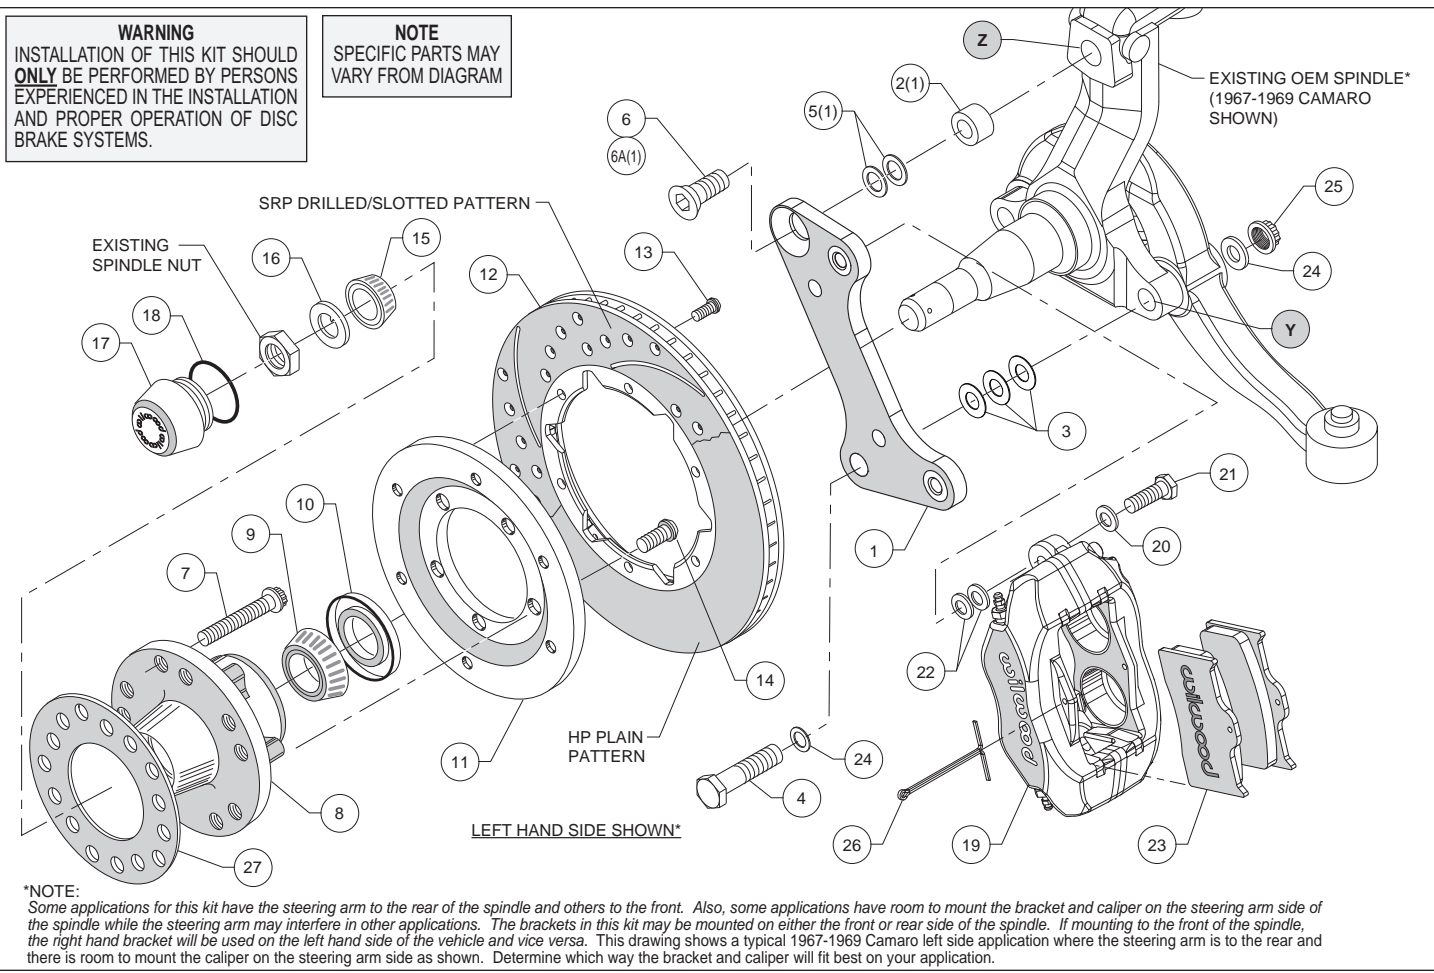
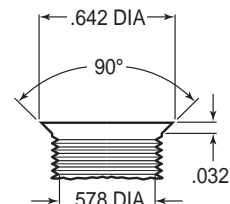
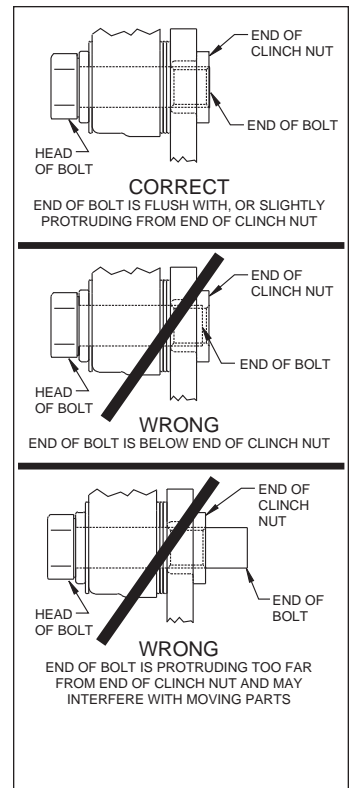

Figure 1. Typical Installation Configuration
Figure 3. Drill and Tap Detail
Figure 4. Clinch Nut Engagement Diagram
Assembly Instructions (numbers in parenthesis refer to the parts list and Figure 1 on the preceding page): **CAUTION:** All mounting bolts must fully engage clinch nuts. Be sure to check that all bolts are either flush or protruding through flanged side of clinch nut after shimming, Figure 4.
•**NOTE:** Some applications for this kit have the steering arm to the rear of the spindle and others to the front. Also, some applications have room to mount the bracket and caliper on the steering arm side of the spindle while the steering arm may interfere in other applications. The brackets in this kit may be mounted on either the front or rear side of the spindle. If mounting to the front of the spindle, the right hand bracket will be used on the left hand side of the vehicle and vice versa. Figure 1 shows a typical 1967-1969 Camaro left side application where the steering arm is to the rear and there is room to mount the caliper on the steering arm side as shown. Determine which way the bracket and caliper will fit best on your application.
•**NOTE:** Some spindles in this year range may require the following modifications (reference Figure 1 and Figure 3): Top anchor pin hole (Z) must be drilled and tapped to the dimensions as outlined in Figure 3. The lower bolt hole (Y) in the spindle used to mount the new caliper bracket, and the mating steering arm hole, must be enlarged to .50" by drilling. It is recommended these modifications be performed by a qualified machinist.
- Install wheel studs (7) into the hub (8), Photo 1. Torque to 77 ft-lb. **NOTE:** There are two five lug patterns in the hub (5 x 4.50 and 5 x 4.75). Ensure the correct hub stud pattern is being used to fit the wheel application.
- Pack the large inner bearing cone (9) with high temperature disc brake bearing grease (available from your local auto parts store) and install into the backside of the hub (8), Photo 2.
- Install the grease seal (10) by pressing into the backside of the hub (8), flush with the end of the hub, Photo 2.
- Orient the rotor (12) and the rotor adapter (11) as shown in Figure 1 and Photo 3. Attach the rotor to the adapter using bolts (13). Using an alternating sequence, apply red *Loctite*® 271 to the threads, and torque to 25 ft-lb.
- Mount the adapter/rotor assembly (11 and 12) to the hub (8) using bolts (14), as shown in Figure 1 and Photo 4. Using an alternating sequence, apply red *Loctite*® 271 to the threads, and torque to 45 ft-lb.
- Disc Brake Spindle Application Only:** Follow the instructions below, but instead use bolt (6A), spacer (2), and two .050" thick washers (5) in the upper bolt hole location, Figure 1.
- Orient the flat bracket (1) as shown in Figure 1 and Photo 5, and install using bottom bolt (4), washers (24), and nut (25), Figure 1. Initially place three .032" thick shims (3) between the bracket and spindle. Install the upper bolt (6 or 6A), Photo 6. Temporarily tighten bolts. **NOTE:** *The bracket must fit squarely against the mounting surfaces on the spindle.* Inspect for interference from casting irregularities, machining ridges, burrs, etc. Ensure that the flanged heads of the clinch nuts in the bracket are facing outboard. Temporarily install the hub/rotor assembly. Check that the bracket is aligned parallel to the rotor, Photo 7. If not, adjust by adding or subtracting shims (3) on the lower bolt between the bracket and spindle, Figure 1. Once the bracket alignment is correct, remove the upper bolt (6 or 6A), apply red *Loctite*® 271 to the bolt threads, and torque to 120 ft-lb. Torque the lower lock nut to 65 ft-lb.
- Pack the small outer bearing cone (15) with high temperature disc brake bearing grease and install into hub (8). Slide the hub/rotor assembly onto the spindle. Secure using spindle washer (16) and OEM spindle nut, Photo 8. Adjust bearings per OEM specifications. Install saved OEM nut lock (if any) and a new cotter pin (not included).
- Screw dust cap (17) into hub (8). Friction created by the o-ring (18) on the dust cap keeps it from unscrewing. **NOTE:** *The O.D. of the existing OEM spindle washer may be larger than the I.D. of the dust cap not allowing it to seat against the hub face. Therefore, use the spindle washer (16) supplied with the kit instead of the OEM washer.*
- NOTE:** *Please reference the caution statement at the beginning of the assembly instructions.* Mount the caliper (19) onto the caliper bracket (1) using bolts (21) and washers (20), as shown in Figure 1. Initially place two .035" thick shims (22) on each bolt between the caliper and the bracket, Photo 9. Temporarily tighten the mounting bolts and view the rotor (12) through the top opening of the caliper. The rotor should be centered in the caliper, Photo 10. If not, adjust by adding or subtracting shims (22) between the bracket and the caliper. Always use the same amount of shims
on each of the two mounting bolts. **NOTE:** *The end of the bolt must be flush with or slightly protruding from the head of the clinch nut in the bracket.* If necessary, place spare shims between the washer and the caliper mounting ear to achieve the proper clinch nut engagement, as shown in Figure 4. Once the caliper alignment is correct, remove the bolts one at a time, apply red *Loctite® 271* to bolt threads, and torque to 40 ft-lb.